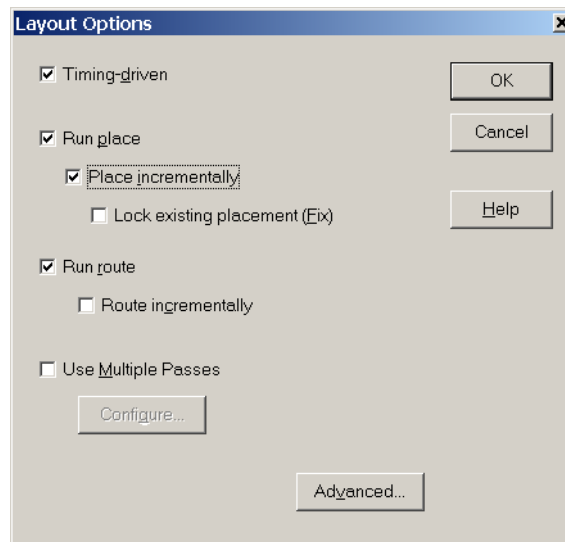

Figure 5 • Place Incremental ON Mode
- Place Incremental ON Mode (Figure 5)
- Place Incremental ON Mode (Figure 5 on page 6)